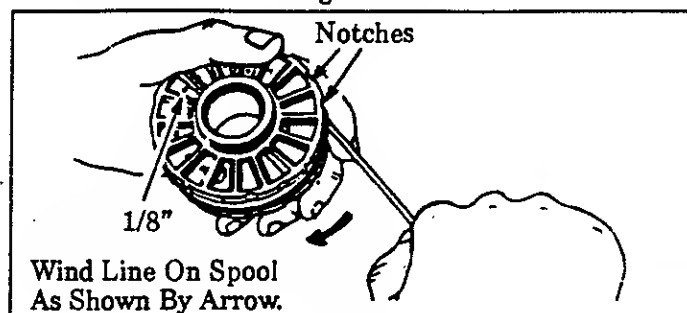

Figure 20
- Insert 1/16" to 1/8" of the end of the Line through one of the holes in the rim of the Spool. Allow no more than 1/8" line to extend beyond the rim to avoid interference with line release action. Figure 20.
- Wind the Line onto the Spool in the direction shown by the arrow on the Spool and as tightly and evenly as possible so the line will feed properly. Figure 20.